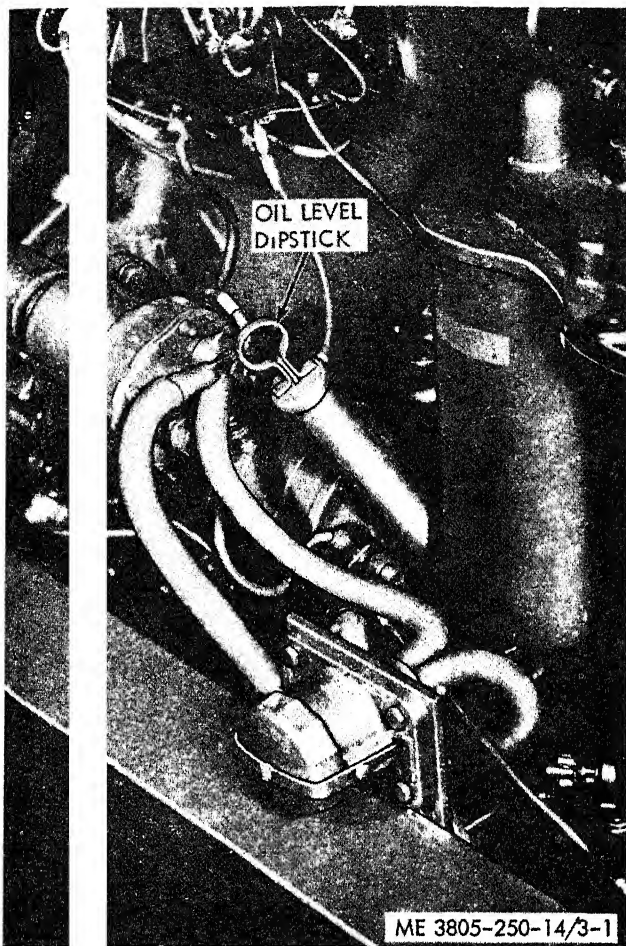

Figure 3-1. Checking crankcase oil level.
- (1) Check the crankcase oil level daily as follows;
- (a) Check the oil level with the dipstick and add oil as necessary to bring the oil level to the "FULL" mark on the dipstick (fig. 3-1).